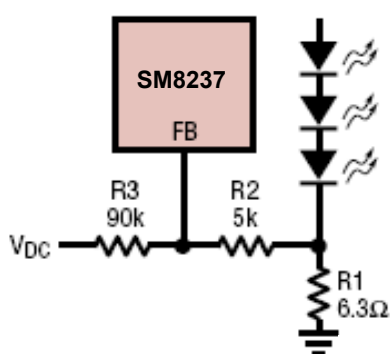
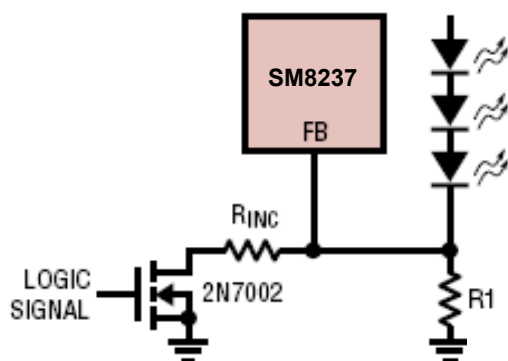
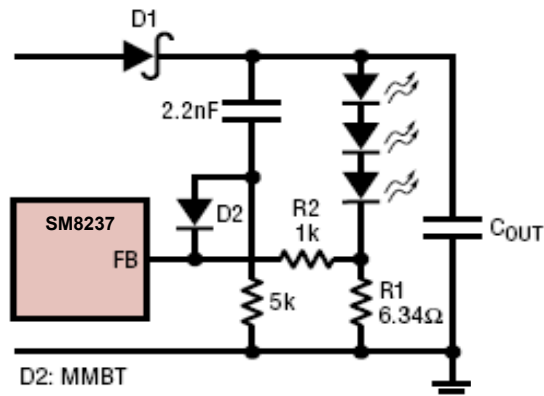

Figure 3 Dimming control using a DC voltage
Figure 5. Dimming control using a logic signal
Figure 6. Recommended soft-start circuit
For some applications. The preferred method of brightness control is a variable DC voltage to adjust the LED current. The dimming control using a DC voltage is shown in figure 5. As the DC voltage increases, the voltage drop on R2 increases and the voltage drop on R1 decreases. Thus, the LED current decreases. The selection of R2 and R3 will make the current from the variable DC source much smaller than the LED current and much larger than the FB pin bias current. For V_{DC} range from 0V to 2V, the selection of resistors in figure 3 gives dimming control of LED current from 0mA to 15mA.
The filtered PWM signal can be considered as an adjustable DC voltage. It can be used to replace the variable DC voltage source in dimming control. The circuit is shown in figure 6.
For applications that need to adjust the LED current in discrete steps, a logic signal can be used as shown in figure 5. R1 sets the minimum LED current (when the NMOS is off). R_{INC} sets how much the LED current increases when the NMOS is turned on. The selection of R1 and R_{INC} follows formula (1) and Table 1.
To achieve minimum start-up delay, no internal soft-start circuit is included in SM8237. When first turned on without an external soft-start circuit, inrush current is about 200mA. If soft-start is desired, the recommended circuit and the waveforms are shown in figure 6. If both soft-start and dimming are used, a 10kHz PWM signal on SHDN is not recommended. Use a lower frequency or implement dimming through the FB pin as shown in figure 3,4 or 5.